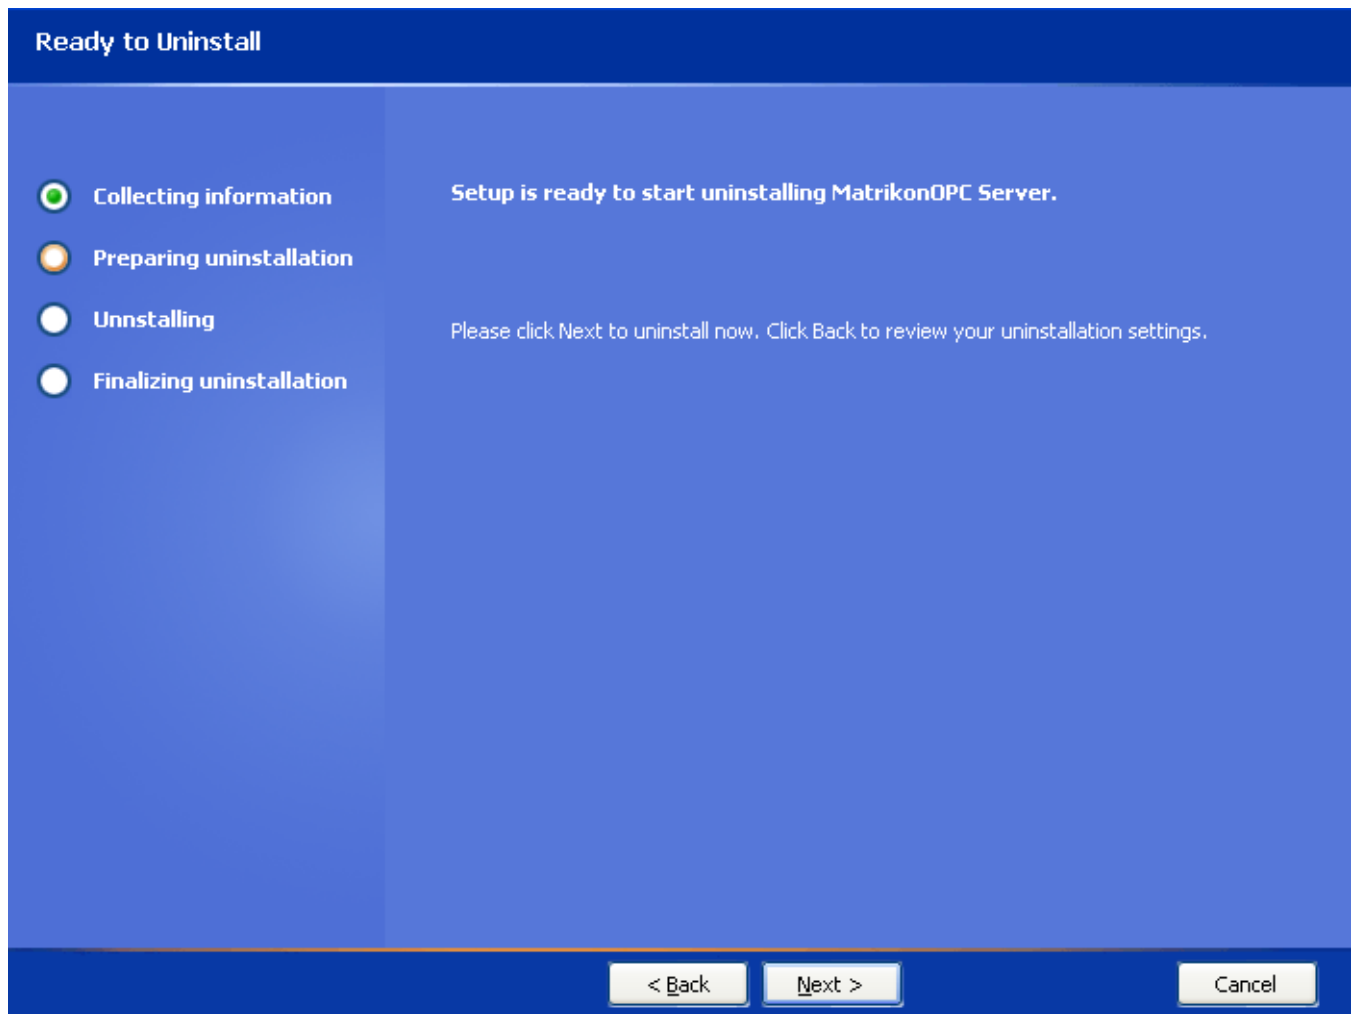

Figure 101 - Ready to Uninstall Screen
8. Click on the **Next** button. The **Ready to Uninstall** screen (Figure 101) is displayed.